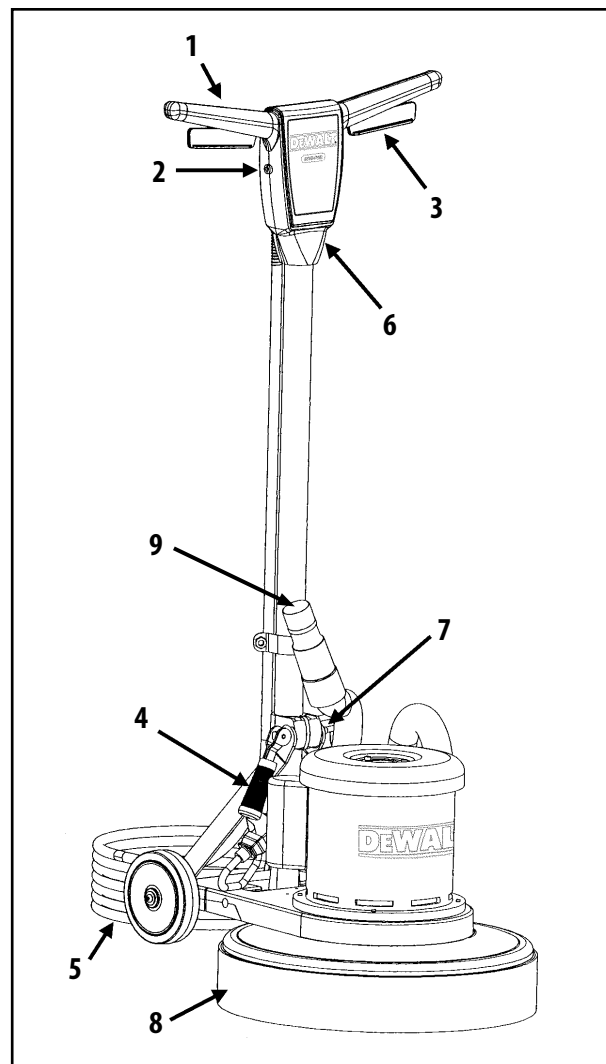

Figure 1
2. Install skirt (216-RS) as shown in (figure 1, item 8); the stiffening strip down.